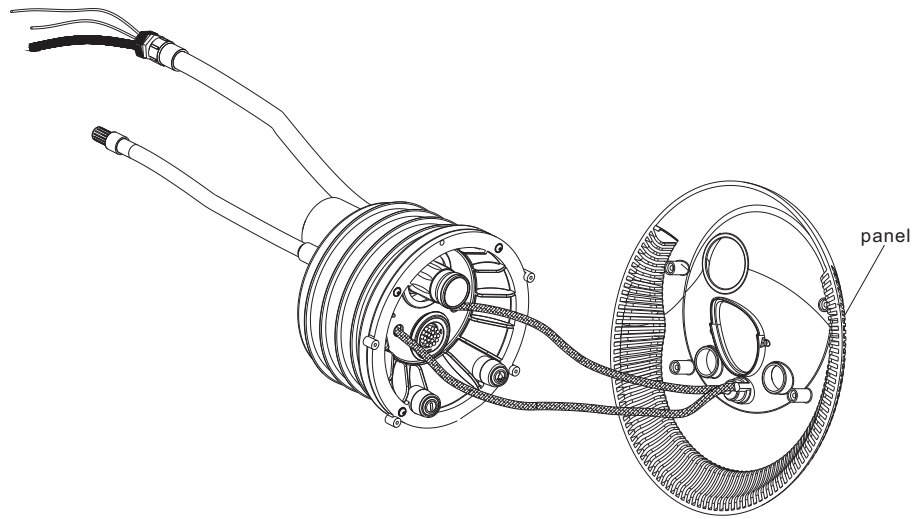

Figure 11
- 3) connect the pipes of the shell to the side of the mask of the air button. Connect the gas nozzle of the support frame to the middle of the gas nozzle (Figure 11); (Note: must not be reversed)